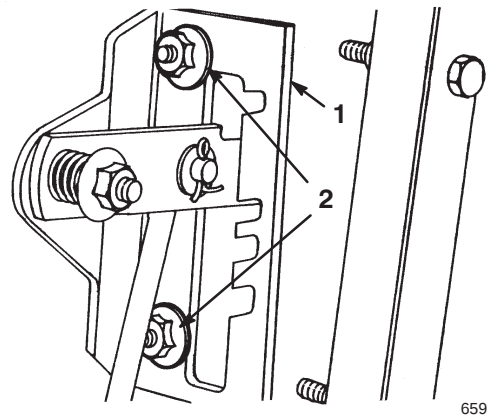
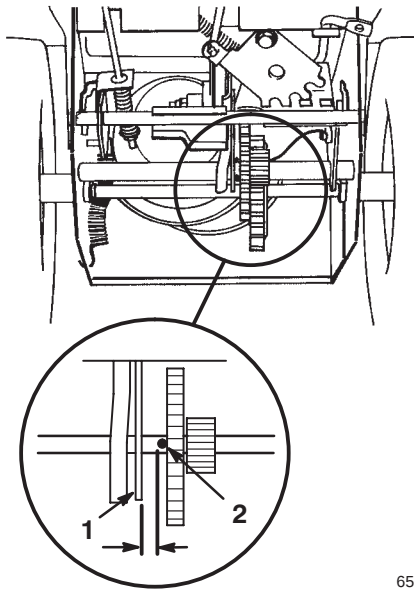

Figure 21
Figure 22
- Loosen the flange nuts that secure the selector plate to the control panel (Fig. 21).
Note: The drive assembly should be 1/8 inch (3 millimeters) from the roll pin; if not, slide the selector plate (Fig. 21) until the gap is 1/8 inch (3 millimeters); refer to Figure 22.